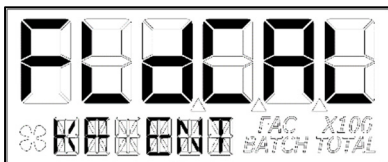

Figure 26-4
**K-Factor Entry** method (see Figure 26-4) is a field calibration method by which the user can input either a single point or multipoint calibration table.